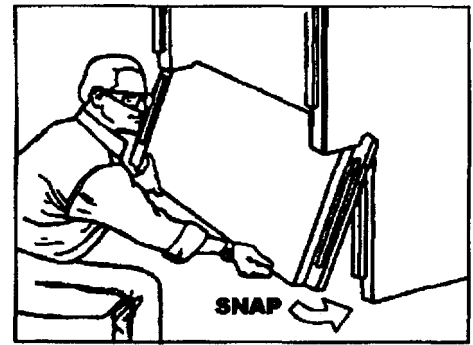
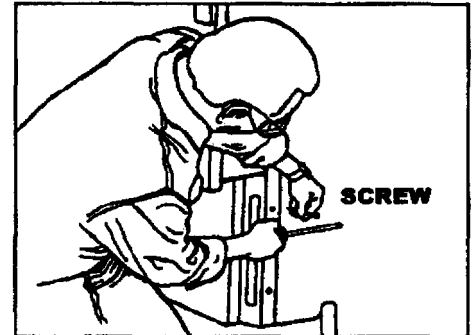

Figure 3
Figure 4
Step sections have open slots at each end which snap onto the protruding tabs located on the side panels. Push the step into the notches above the tabs (both sides at the same time), and force the step slots over the panel tabs until the step "snaps" into place (see Figure 3). Use (2) 2-1/2" long plated deck screws (four per step panel) to cross-pin the steps to the side panels at each step/side panel connection (see Figure 4) (Note: Screws not supplied with window well). Reference the pre-marked locations for cross pinning. This will ensure that the step will not detach during backfilling.